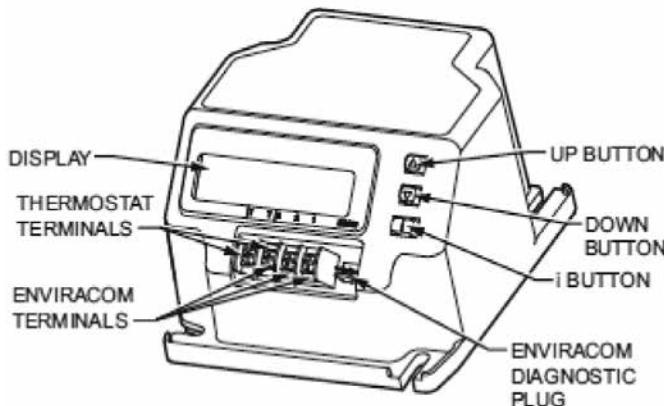

Figure 26: R7284 Oil Primary Terminals, Display and Function Buttons
- b. Pump Priming Cycle: To facilitate purging air from the oil lines and filters. The R7284 can be placed in a purge routine by pressing and releasing the up arrow button during the Trial For Ignition. "Pump Prime" is shown on the oil primary display along with the time left on the Trial for Ignition (TFI). Pressing the up arrow button adds a minute to the TFI time for a maximum of 10 additional minutes (press the up arrow button 10 times). Pressing the down arrow subtracts a minute from the TFI time (see Figure 26).